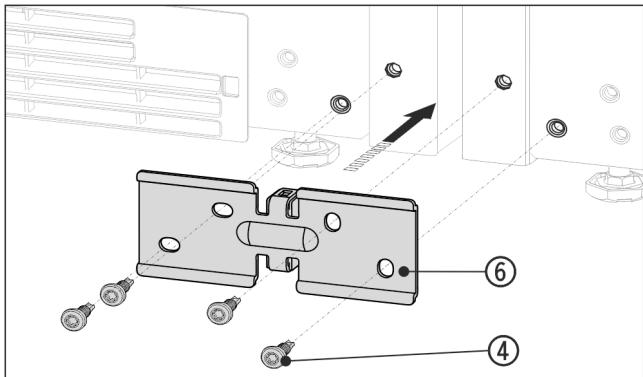

Fig. 12 Example illustration
- ▶ Slide the bracket Fig. 12 (6) on with the spacer between the appliances and screw in loosely with the 4 screws Fig. 12 (4).